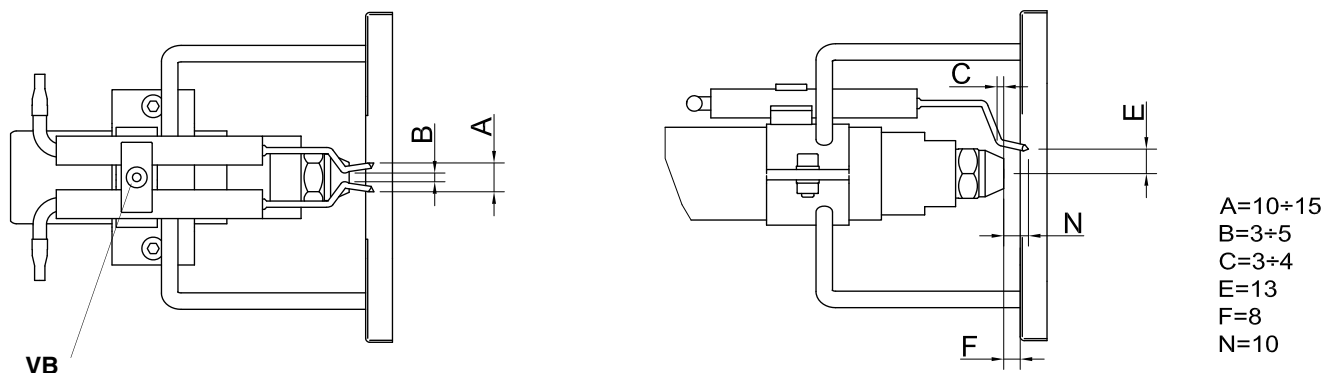
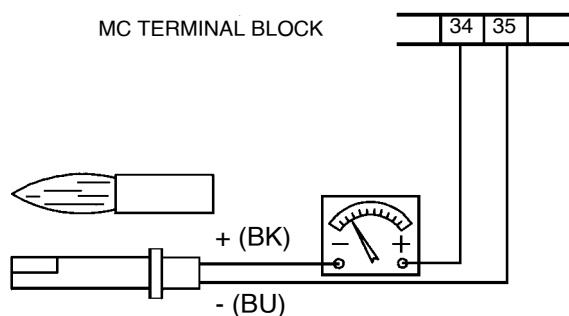

Fig. 28
Fig. 29
- Unscrew the oil connections E (Fig. 28) connecting the flexible pipes to the lance L and remove the whole assembly as shown in Fig. 28-Fig. 29.